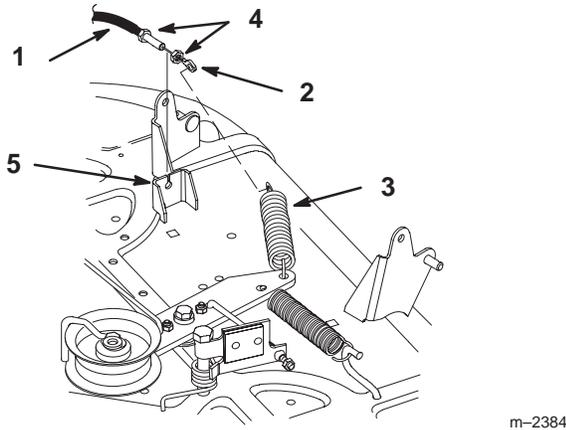

Figure 37
6. Unhook the blade control (PTO) cable ring end from the idler spring (Fig. 37).
7. Remove jam nut from blade control (PTO) cable at mounting bracket. Slide the cable from the bracket (Fig. 37).